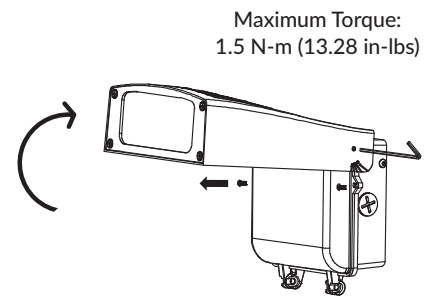

Figure 3
- Use a 3/32 hexagon wrench to loose the side hex screws and adjust luminaire head upward to 90 degrees. (Figure 3).